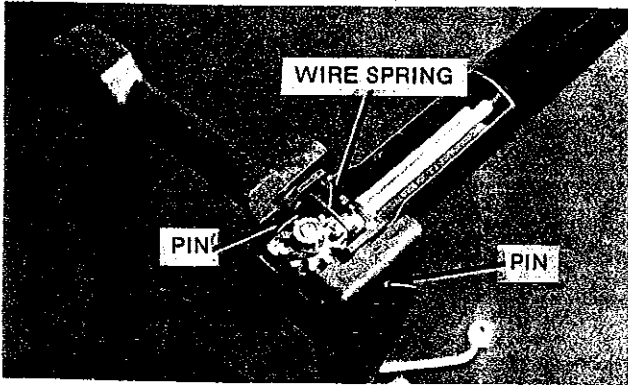

Figure 37
- b. Remove spring retainer and drive out pins on both sides of hub (Figure 37).